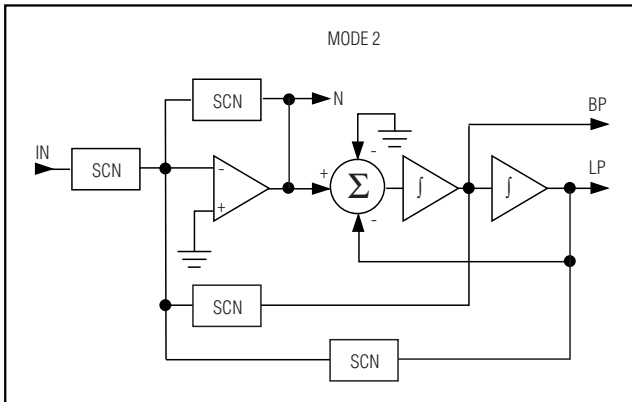

Figure 8. Filter Mode 2: Second-Order Bandpass, Lowpass, and Notch
**MODE 2** (Figure 8) is used for all-pole lowpass and bandpass filters. Key advantages compared to mode 1 are higher available  $Q$ s (see Table 3) and lower output noise. Mode 2's available  $f_{CLK}/f_0$  ratios are  $\sqrt{2}$  less than with mode 1 (see Table 2), so a wider overall range of  $f_0$ s can be selected from a single clock when both modes are used together. This is demonstrated in the Wide Passband Chebyshev Bandpass design example.